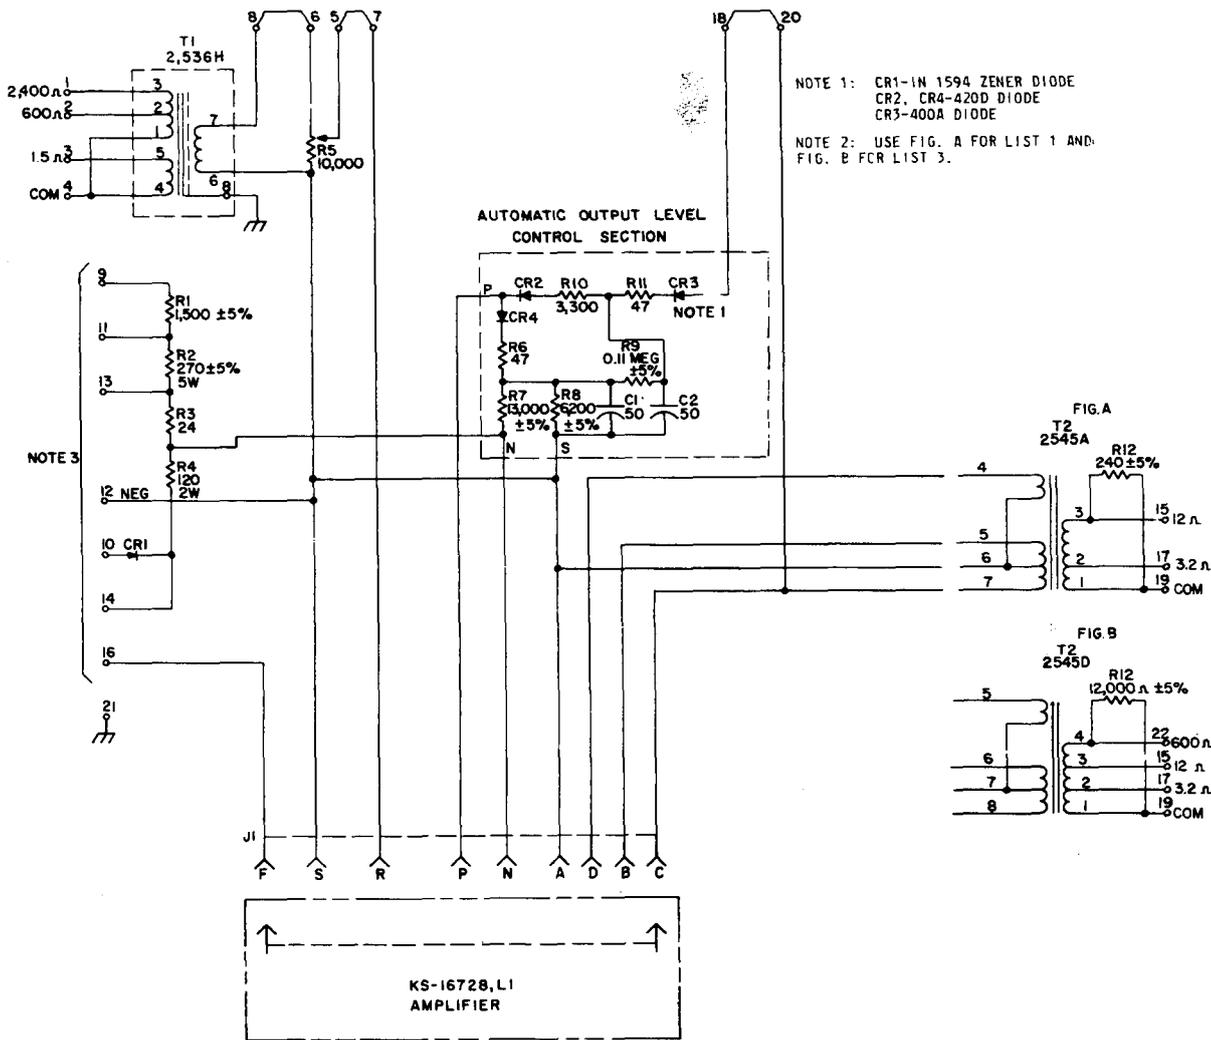

Fig. 6 - KS-16754, List 1 and 3 Amplifiers, Schematic
8.01 Schematics for List 1 through 4 amplifiers are found in Fig. 6 and 7, respectively.